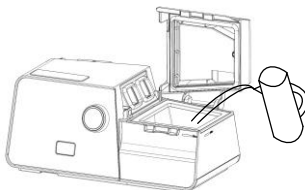

Fig. 13-4
(2) Open the cap, and fill the water chamber with approximately 360 ml of water, as shown in Fig. 13-4. Make sure that the water does not exceed the maximum water level line.